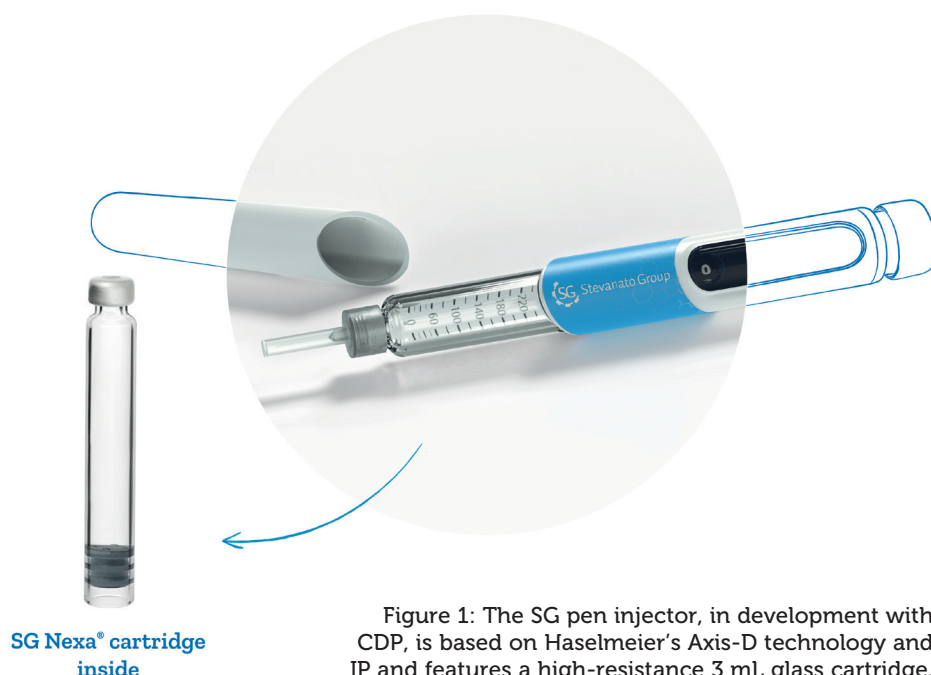

Figure 1: The SG pen injector, in development with CDP, is based on Haselmeier's Axis-D technology and IP and features a high-resistance 3 mL glass cartridge.
**SK** We are excited about this collaboration. It has a powerful objective to bring together different capabilities and services from Stevanato Group, within our existing collaboration with Haselmeier, and now in particular with CDP, to bring this SG pen – a new pen injector platform based on Haselmeier's variable-dose pen injection technology, Axis-D (Figure 1) – into the diabetes space for the delivery of, for example, insulin/insulin analogue products and GLP-1s.